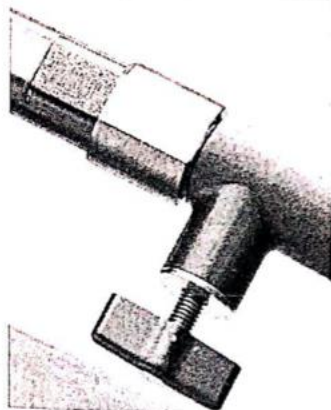
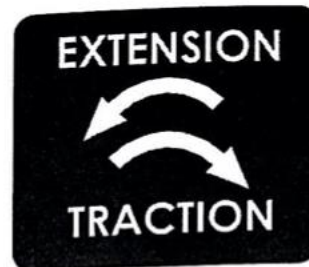

Figure 3-2. Tensiometer and Force Gauge
Figure 3-6. Carbon Fiber Traction Unit Operation Label
This Carbon Fiber Traction Unit Assembly is designed to provide traction during applicable orthopedic surgical procedures. Traction force is achieved from the screw thread mechanism (tensiometer) housed within the traction unit assembly (see Figure 3-2). Smooth and precise control of applied traction as well as smooth and precisely controlled release of traction at the appropriate time is achieved with this accessory. Assembly is equipped with a quick connect mechanism enabling the use of various accessories like a traction boot, carbon fiber traction bow/block and skeletal traction block.
The tensiometer (through equipped force gauge) gives the user an indication of the amount of traction being applied to the operative limb. The tensiometer has a range of 10 to 60 lbs (5 to 25 kg) of traction (see Figure 3-2).
NOTE: The traction force readings (see Figure 3-2) are for reference only and are not intended to dictate surgical setup and practice. Carbon Fiber Traction Unit Assembly is capable of generating traction force greater than maximum indicator value.
- d. Slowly and smoothly rotate traction drive mechanism in indicated **TRACTION** direction (see Figure 3-6) to apply desired level of traction. Refer to traction force indicator contained inside blue housing which displays a traction force reading as traction is applied (see Figure 3-2).
NOTE: The traction force readings (see Figure 3-2) are for reference only and are not intended to dictate surgical setup